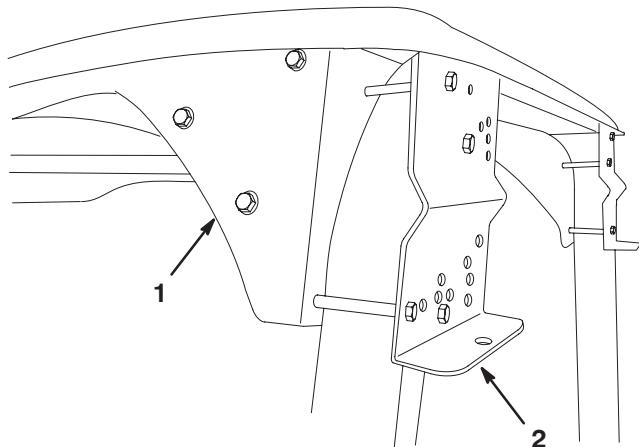

Figure 17
1. Remove the bolts, nuts and rear mounting brackets securing the canopy to the ROPS (Fig. 17). Discard mounting brackets but retain bolts and nuts.